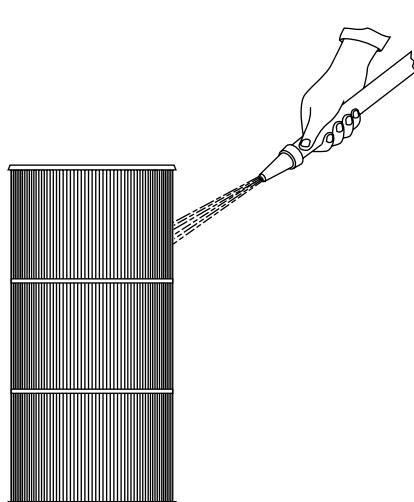

Figure 13
WASHING FILTER ELEMENT (SEE FIGURES 13 AND 14)
1. Use a garden hose with straight flow nozzle to wash down filter element (See Figure 13).